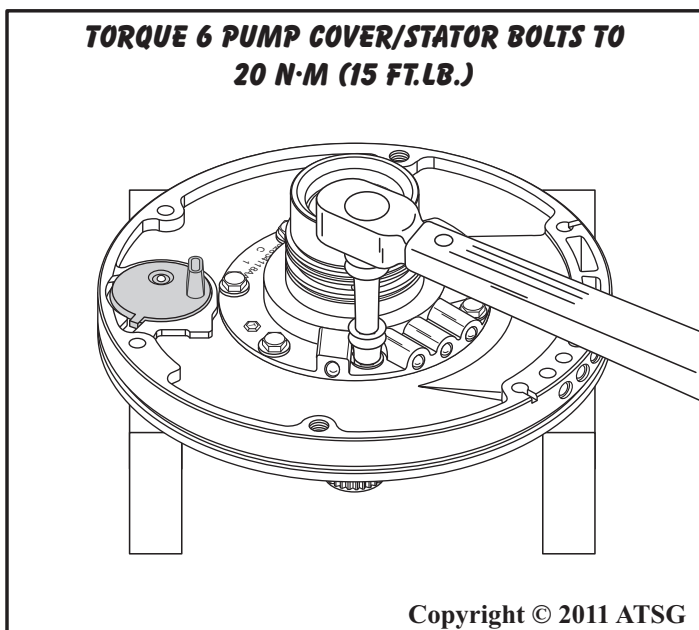

Figure 108
17. Torque all pump cover bolts to 20 N·m (15 ft.lb.) as shown in Figure 108.